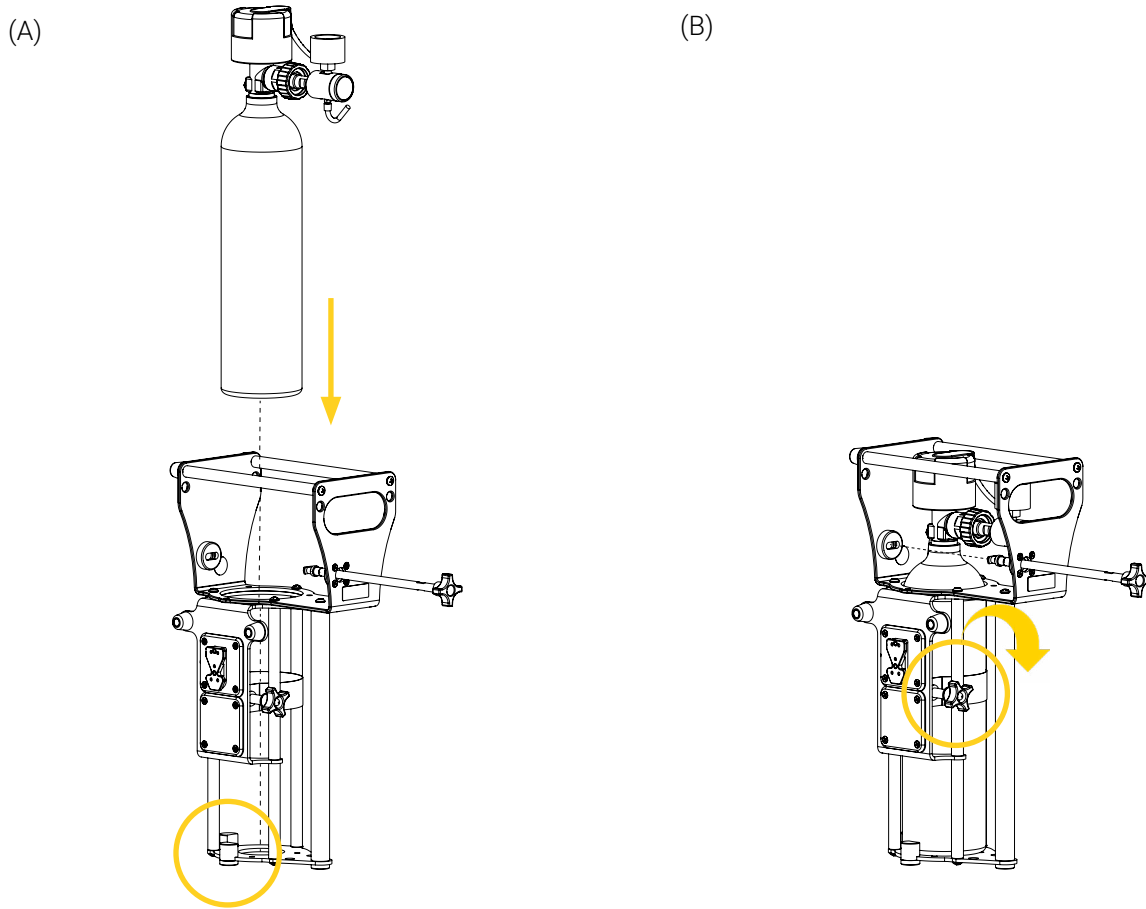

Figure 9: Installing the gas cylinder in the Techni-INO
- Carefully insert the gas cylinder vertically in the bracket and place it on the base plate, pressed against the positioning guides (Figure 9 A).
- Rotate the knob of the retainer clockwise until the gas cylinder is secured in the bracket (Figure 9 B).